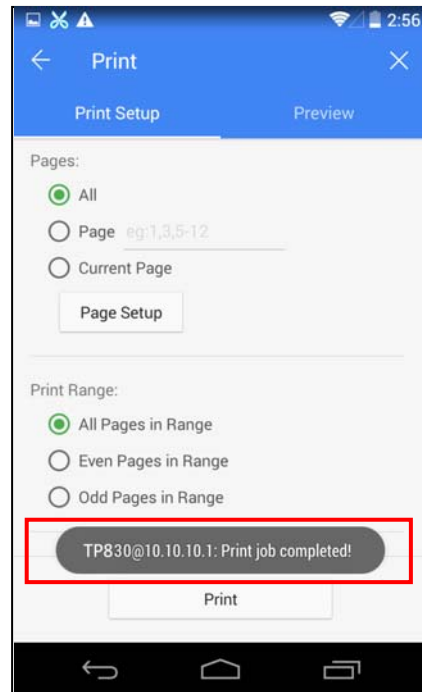

Figure 32
4.8 The system sends print data to the printer, when the printer finishes receiving, a prompt “Print job completed!” will be shown, as shown in Figure 32.